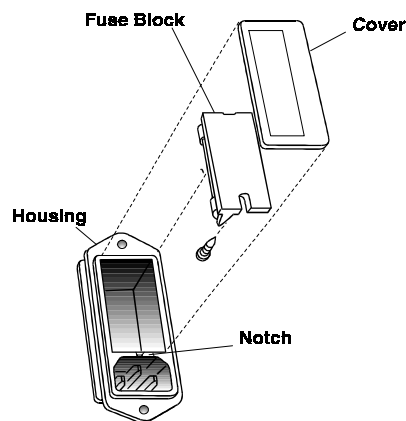

Figure 5-1: Removing Fuse Block from Housing
1. Place small screwdriver in notch, and pry cover off, as shown in Figure 5-1.
4. Reassemble Housing as shown in Figure 5-1.